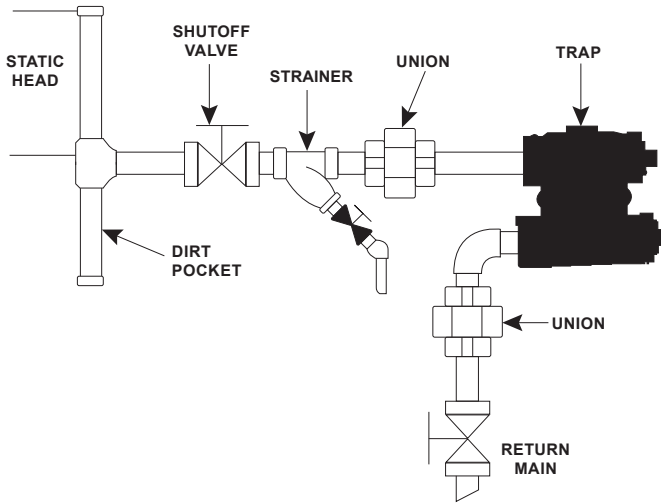

Figure 1. Typical Installation
- Recommended installation to always provide a dirt pocket and strainer with blow down above the trap, see Figure 1.